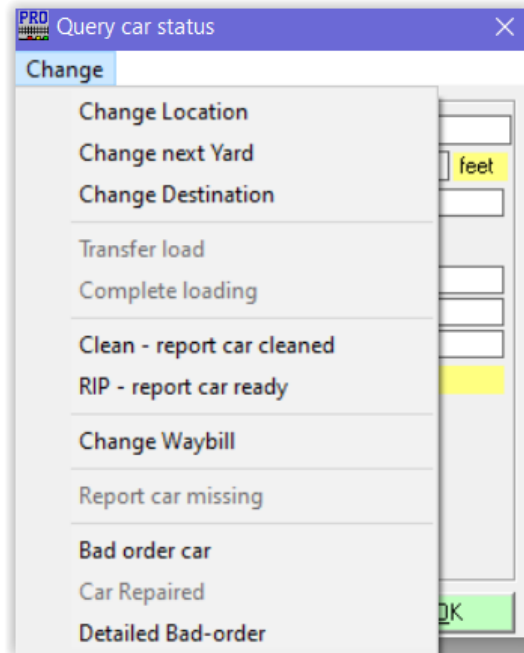

Figure 10-3e
- iv. This window allows you to override ProTrak's status and routing for the car, USE WITH **CAUTION**. To make any changes click on the "Query car status" window menu bar entry "Change". This opens the drop down in Figure 10-3e.